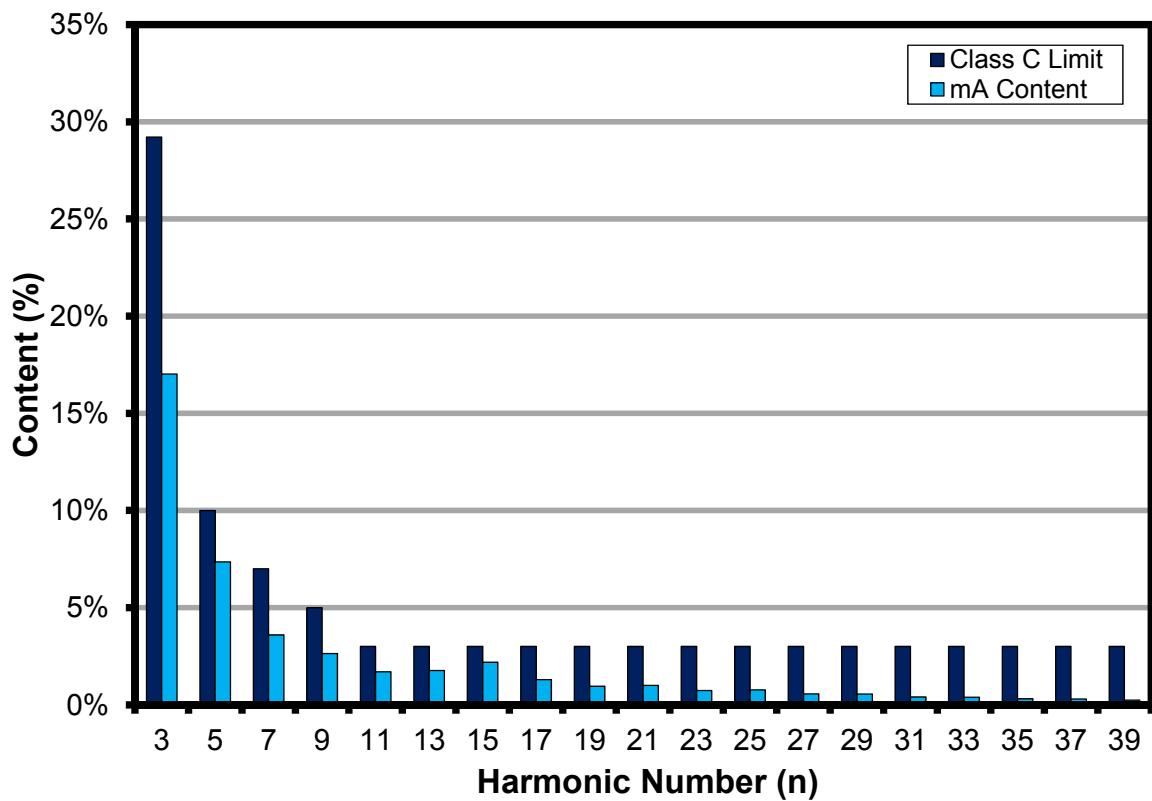

Figure 13 – 50 V LED Load Input Current Harmonics at 230 VAC, 50 Hz.
11.4 A-THD**Figure 13 – A-THD vs. Line and Load.**